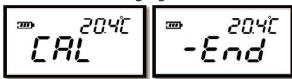

figure 7
- Press and hold the ZERO key for two seconds until "CAL" is displayed, then release (figure 7).